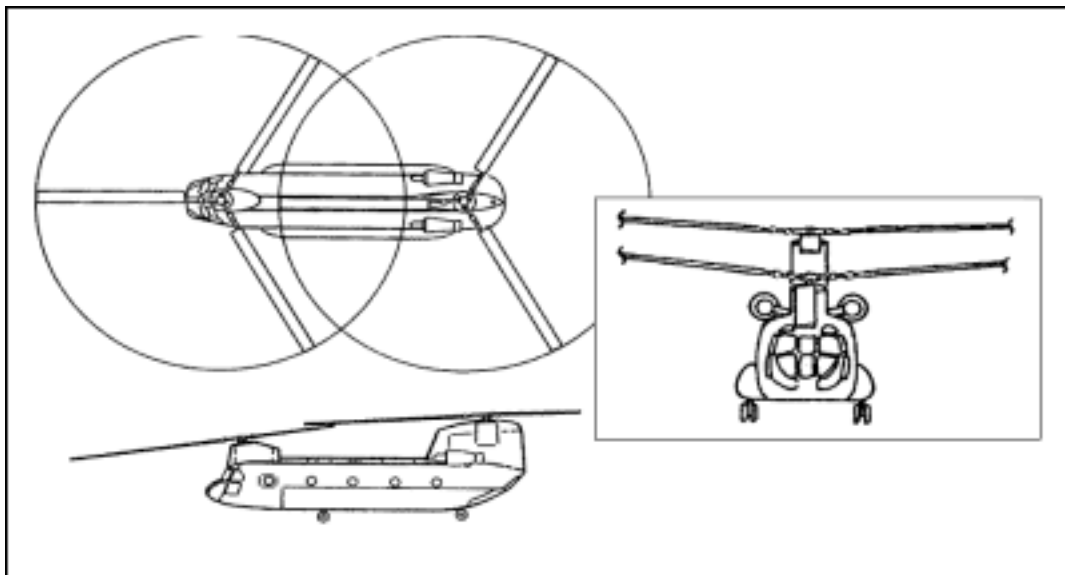

Figure B-7. CH-47B/C (Chinook).
- a. **CH-47B/C Chinook.** Table B-7 shows specifications for the CH-47B/C Chinook; Figure B-7 shows the aircraft from three angles: